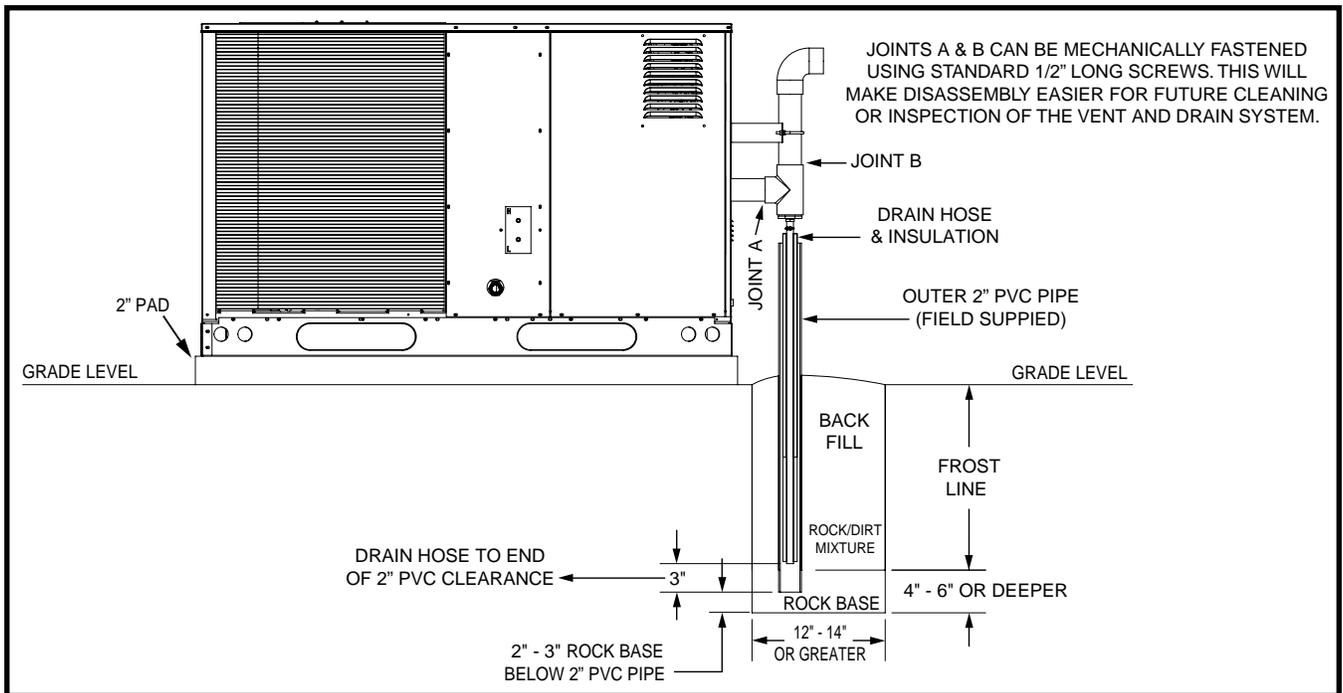
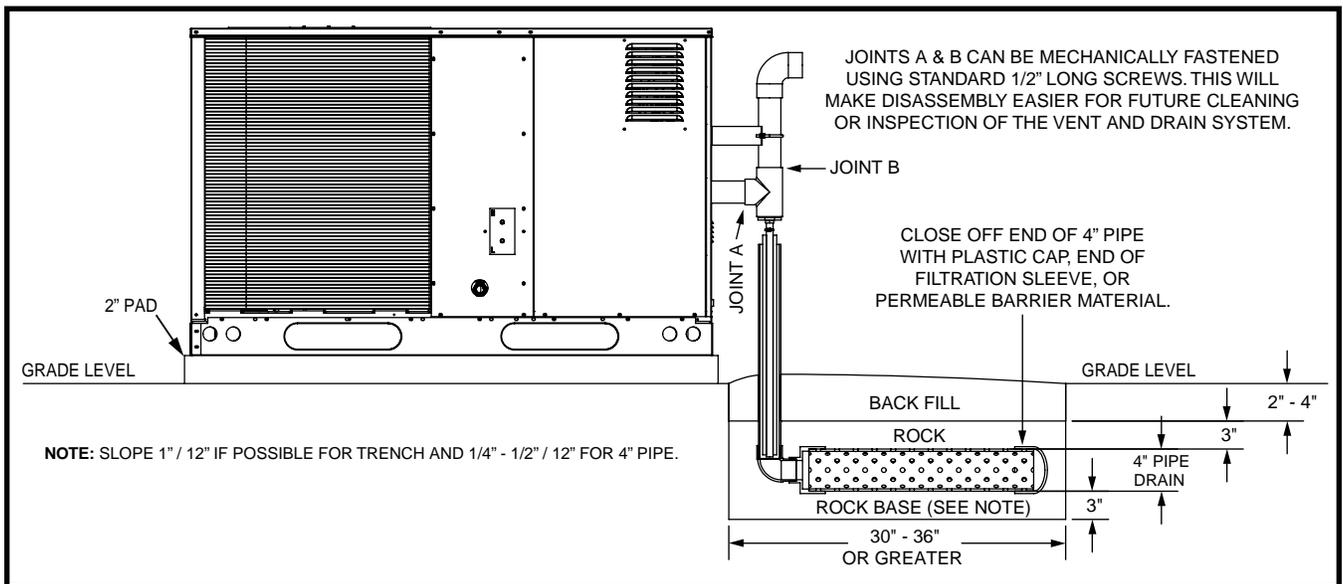

Figure 19. Condensate Disposal Using A Vertical Drainage Pit
Figure 20. Condensate Disposal Using A Horizontal Drainage Trench
Vertical pit should be approximately 12"-14" in diameter (or larger) for installation of the rock base and vertical piping system to allow for proper drainage with a depth of 4"-6" below the regional frost line if possible. See Figure 19.
8. Glue or use two 1/2" long screws (field supplied) to secure the 2" PVC Tee to the unit horizontal vent pipe. See Joint A in Figure 19. **NOTE:** Fastening the Tee to the horizontal vent pipe with 1/2" screws will make disassembly easier for future cleaning or inspection of the drain / vent system.
3. Measure and cut a length of 2" PVC that extends vertically from the bottom of the 3/4" drain fitting at the bottom of the tee to the 2" elbow/reducer assembly resting on the rock base as shown in Figure 20.
11. Glue or use two 1/2" long screws (field supplied) to secure the 2" PVC Tee to the unit horizontal vent pipe. See Joint A in Figure 20. **NOTE:** Fastening the Tee to the horizontal vent pipe with 1/2" screws will make disassembly easier for future cleaning or inspection of the drain / vent system.
5. Cement or mechanically fasten the assembly (with 1/2" long screws) into the top of the tee. Verify the outlet is perpendicular to the unit. See Joint B in Figure 19 and Figure 20.